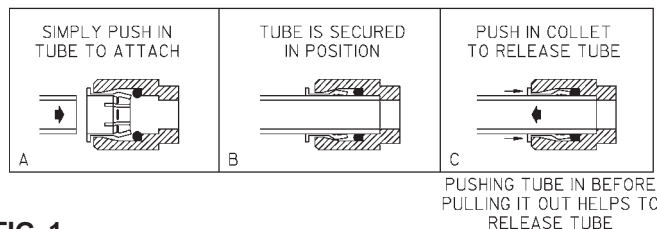

FIG. 1
9. Connect fountain to supply line with a shut-off valve and install a 3/8" unplated copper water line between the valve and the cooler. Remove any burrs from outside of water line. Push the tubes straight into the fittings until they reach a positive stop, approximately 3/4" (See Figs. 1 and 2). DO NOT SOLDER TUBE INSERTED INTO THE STRAINER AS DAMAGE TO THE O-RINGS MAY RESULT.
Actuation of Quick Connect Water Fittings: Fountain is provided with lead-free connectors which utilize an o-ring water seal. To remove tubing from the fitting, relieve water pressure, push in on the gray collar while pulling on the tubing. (See Fig.1) To insert tubing, push tube straight into fitting until it reaches a positive stop, approximately 3/4".